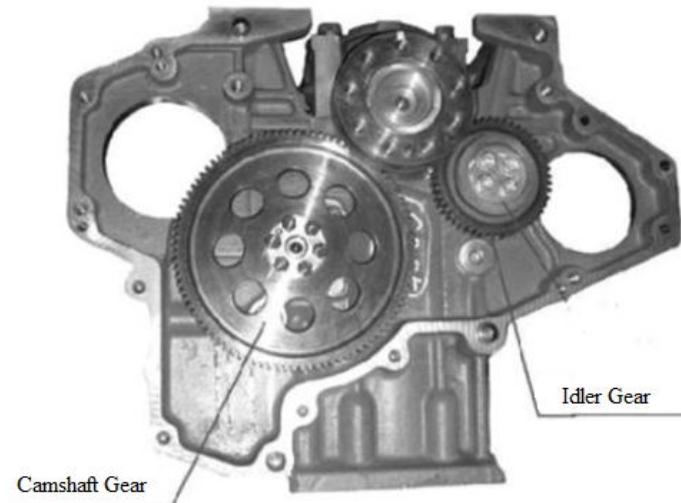

Figure 4-33 Installation of intermediate gear
- (1) The camshaft gear brake hole must match the locating latch on the camshaft;
- (2) Mark on camshaft and mark on crankshaft gear to be symmetrical, then mark on crankshaft gear in middle position of mark on camshaft intermediate gear, see Figure 4-33.